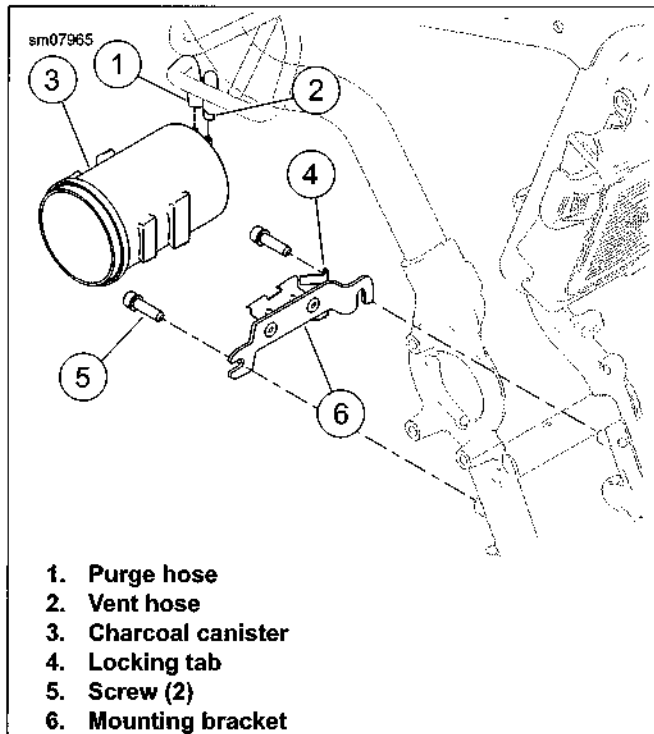

Figure 4-57. Canister Mounting
See Figure 4-57. Mark purge hose (1) as CARB. Mark vent hose (2) as TANK.
1. Mark hoses connected to charcoal canister (3).
3. Press locking tabs (4) at left end of canister clip. Slide canister towards left side to disengage from canister clip.
4. Remove two screws (5) to detach canister mounting bracket (6).